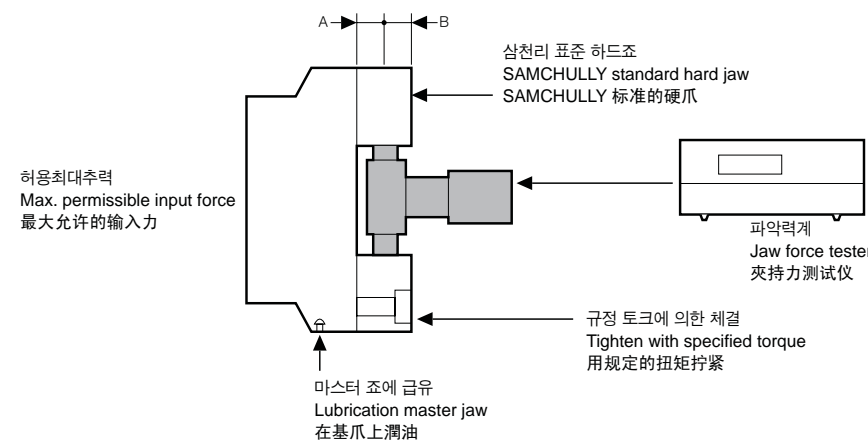

Fig.10
- (1) With SAMCHULLY standard soft top jaw used, the values of grip force are measured with jaw force tester at mid point of soft jaw height(from chuck surface to upper soft jaw face) as shown in Fig.10.
- (2) SAMCHULLY chuck grease is lubrication for obtaining the maximum efficiency of the chuck.
- (3) Mounting bolts of top jaw are tightened with specified torque. (See page16)
- (4) The wedge plunger input force is maximum permissible input force.
- (5) For hydraulic oil supply, the variable capacity type pump which has discharge capacity of 20 liters or more is used. Oil pressure is set with pump's own control devise or a reduction valve which is provided separately from the system.